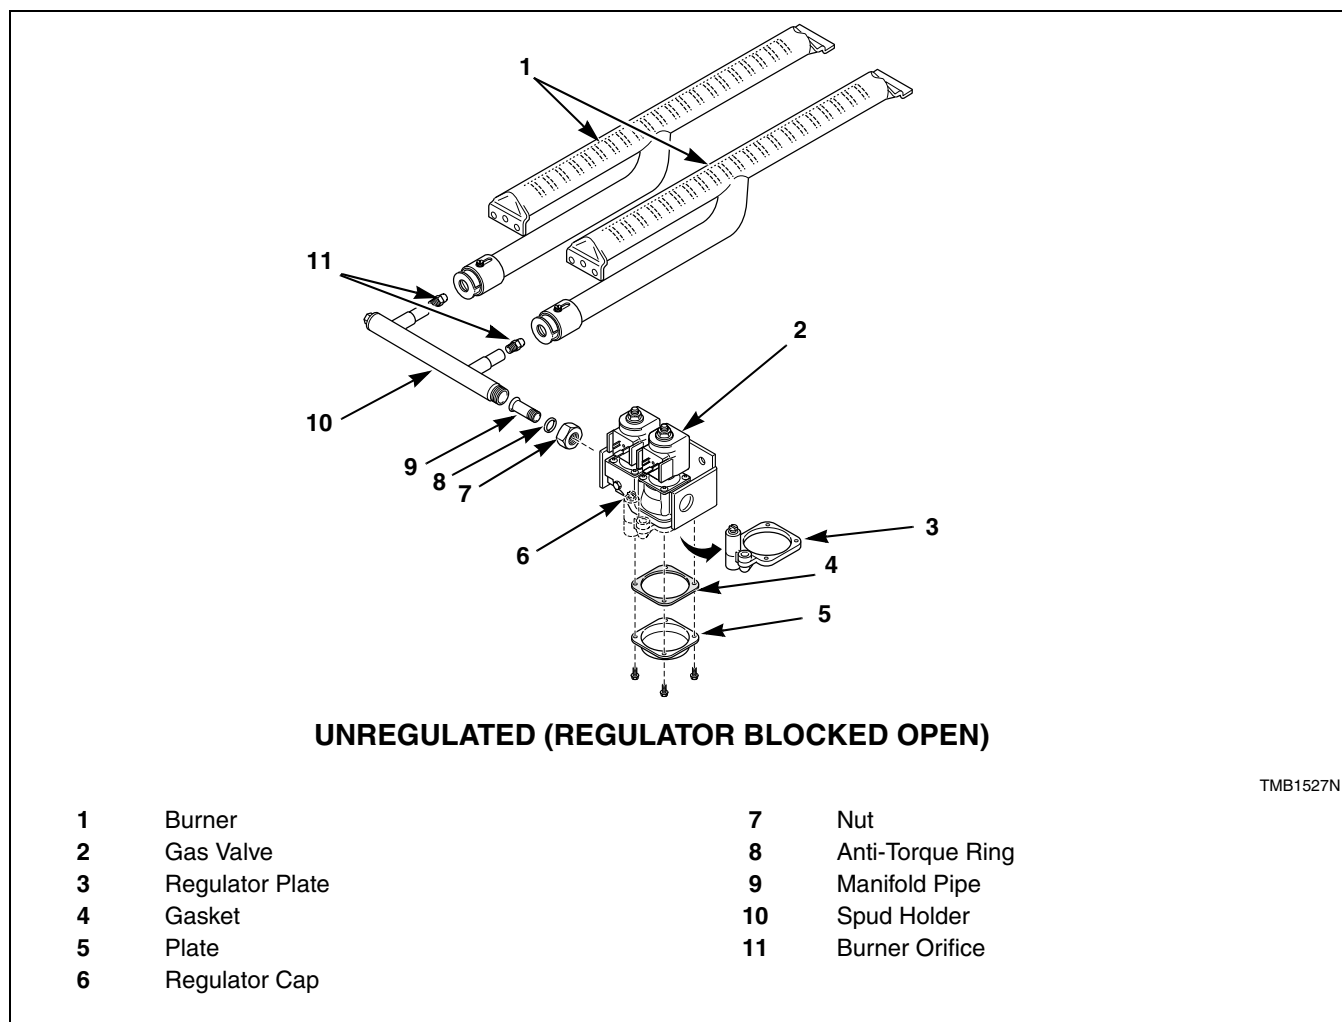
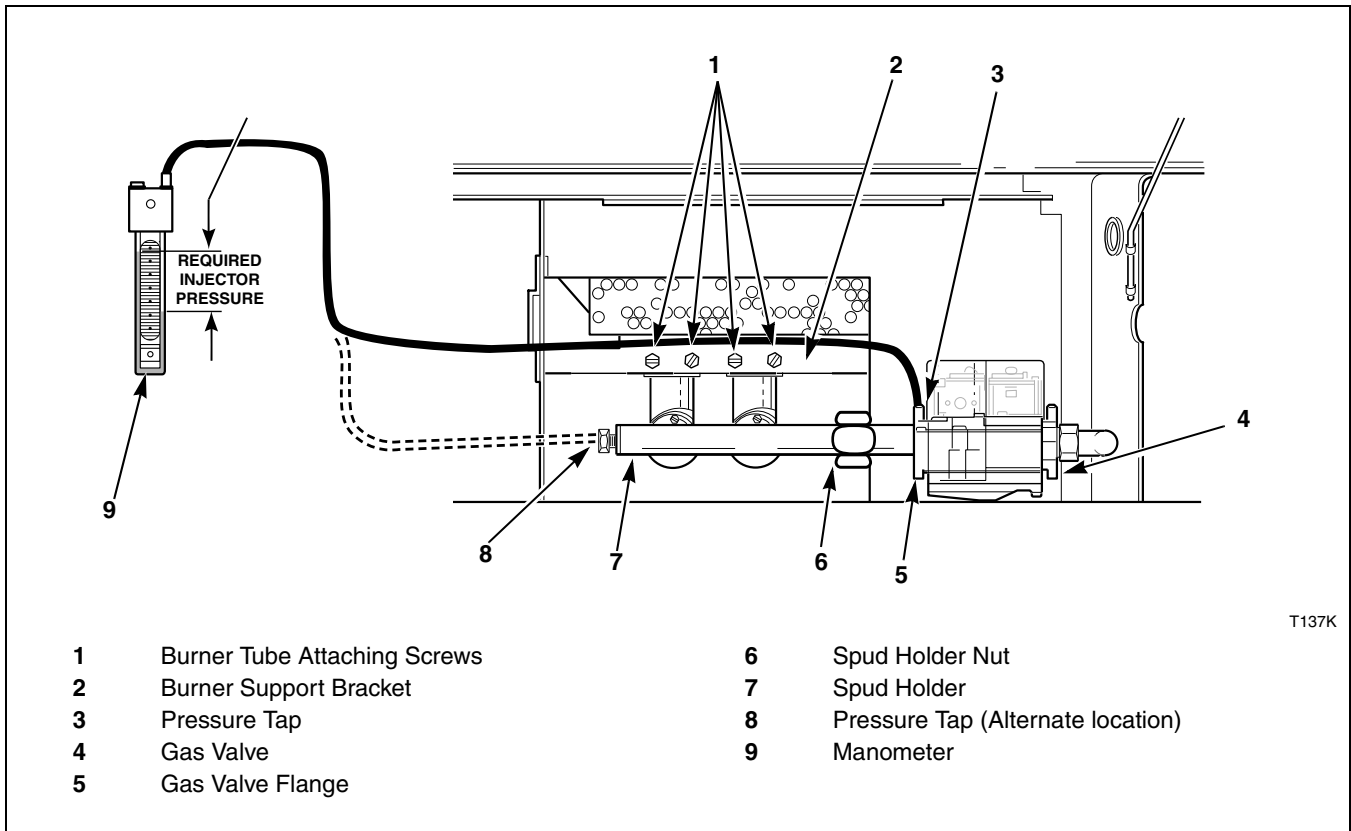

Figure 6
Figure 7
**Johnson G96 Gas Valve** – Unscrew spud holder nut near gas valve. Refer to *Figure 7*. Remove the burner orifice(s) from spud holder. Refer to *Figure 6*.
4. Reinstall spud holder assembly to gas valve, making certain orifice(s) are in line with burner tube opening. Refer to *Figure 6*.
1. Check gas injector (manifold) pressure as follows. Refer to *Figure 7*.
4. Start tumbler and note pressure once flame is burning. Remove regulator cap and adjust regulator screw until the injector pressure per applicable table is achieved. Replace regulator cap. Refer to *Figure 6*.